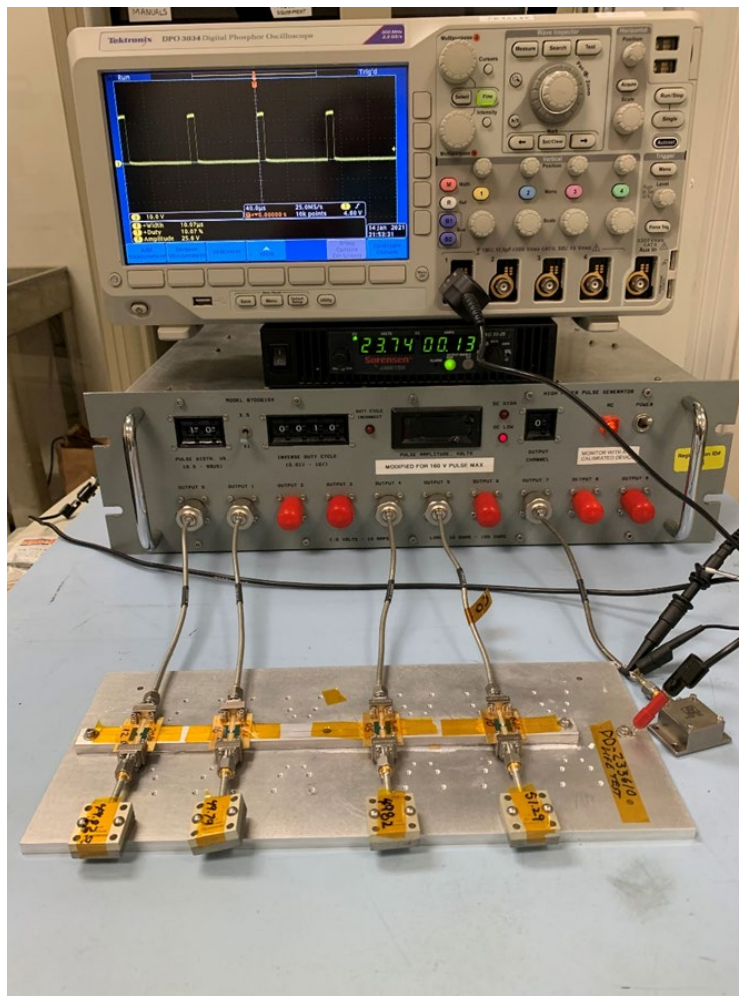

Figure 24. Test setup for the peak power test
Subgroup 2 consisted of three (3) devices, one (1) of each value which have completed Group A. The samples were subjected to a 10 μ s pulse at a 10% duty cycle (1 millisecond period), pulsed DC Voltage of an amplitude equivalent to ten times the maximum power as specified in the SCD (10W). The samples were properly terminated and mounted to a suitable heatsink (see Figure 24) for a duration of 1.0 ± 0.1 hour in each direction per MIL-DTL-3933, Method 4.7.11.7. The units were allowed to stabilize at $25^{\circ}\text{C} \pm 5^{\circ}\text{C}$ for 1-hour minimum before conducting electrical measurements. Acceptance limits were established as per SCD (see Table 1). All three samples of the Group B, Subgroup 2 passed the peak power test (see Table 8).